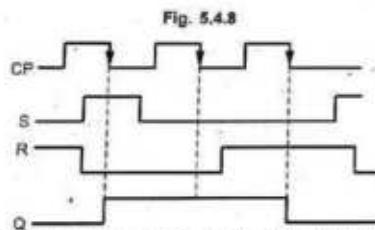

Fig. 5.4.9 Input and output waveforms for negative edge triggered clocked SR flip-flop
- The Fig. 5.4.8 and Fig. 5.4.9 shows the logic symbol, truth table, and input and output waveforms for negative edge triggered SR flip-flop.